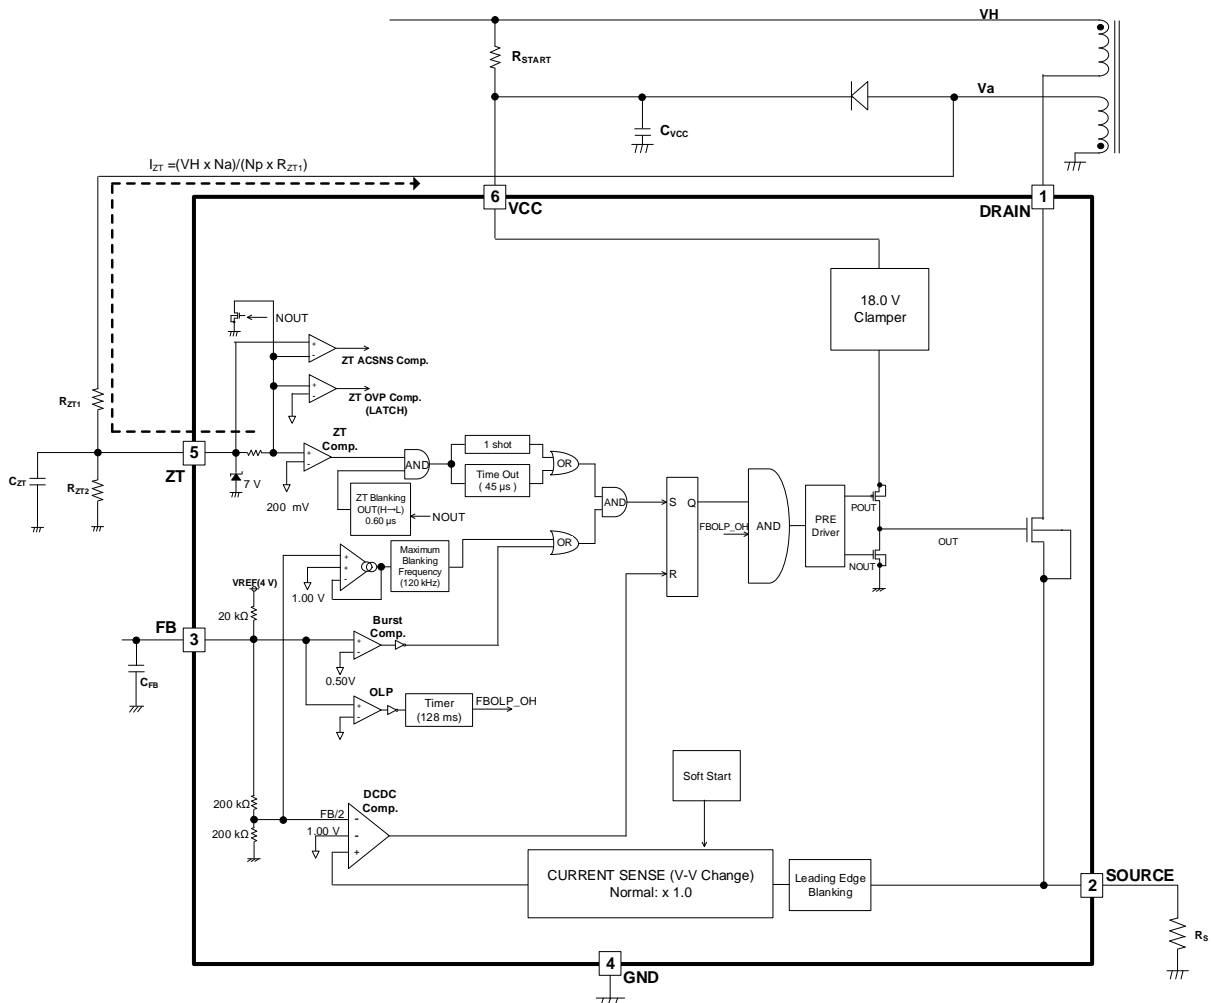
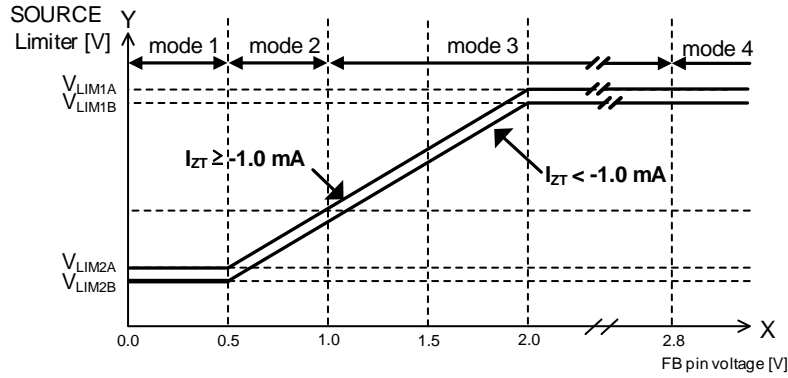
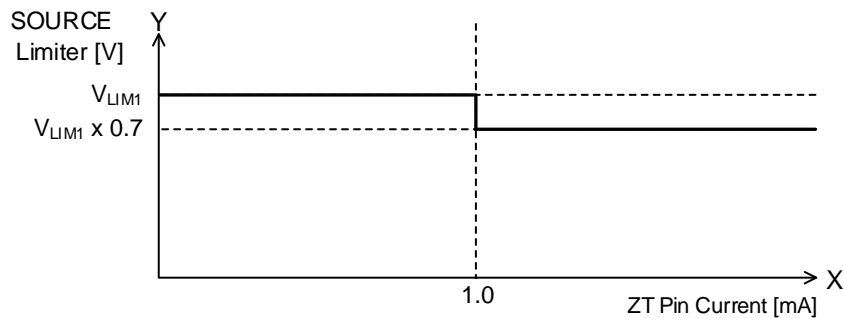
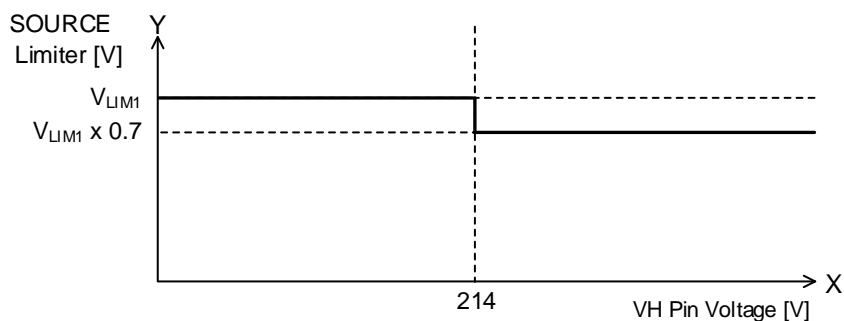

Figure 5. Block Diagram of SOURCE Switching Current
Figure 6. SOURCE Switching: SOURCE Limiter vs FB Pin Voltage
Figure 7. SOURCE Switching: SOURCE Limiter vs ZT Pin Current
Figure 8. Example of SOURCE Switching: SOURCE Limiter vs V_H Pin Voltage
Detection and switch are performed by monitoring the ZT inflow current. When the MOSFET is turned ON, Va becomes a negative voltage dependent on the input voltage (VH). The ZT pin is clamped to nearly 0 V in the IC. The formula used to calculate this is shown below. A block diagram is shown in Figure 5. Also, graphs are shown in Figure 6, Figure 7 and Figure 8.